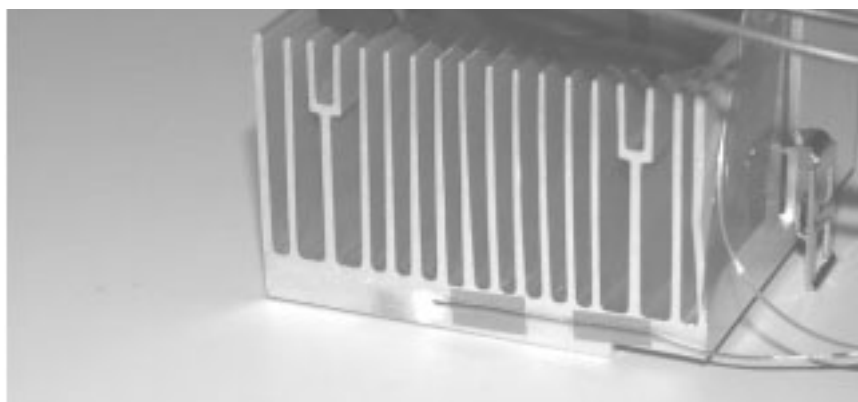

Figure 10. Installed Thermocouple
4. Gently insert the thermocouple into the hole until it bottoms out, and tape it down with Kapton tape, making sure not to kink the thermocouple. Figure 10 shows an installed thermocouple.